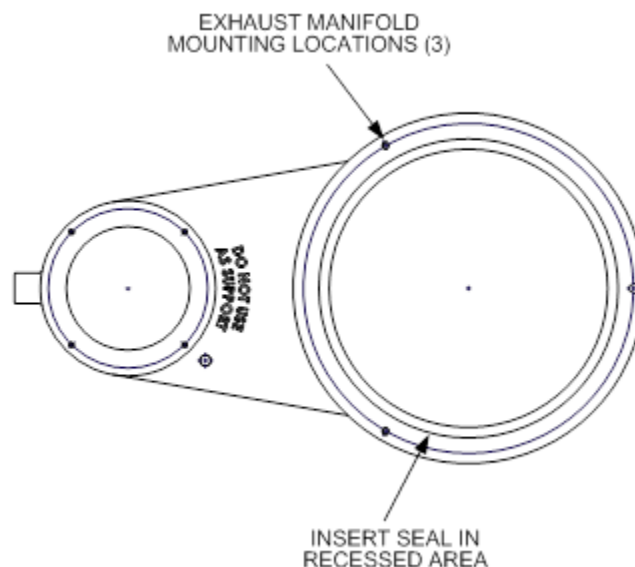

Figure 8. Benchmark 1.5LN Exhaust Manifold - Top View
8. Refer to Figure 8 and replace the existing exhaust manifold seal with the new seal (part no. 84020) included in the kit. Install the adhesive-backed seal in the recess of the exhaust manifold flange (adhesive side down).
9. Align the exhaust manifold with the lower heat exchanger flange and secure it in place using the three (3) bolts removed in step 4. Alternately tighten the bolts to obtain a uniform seal.